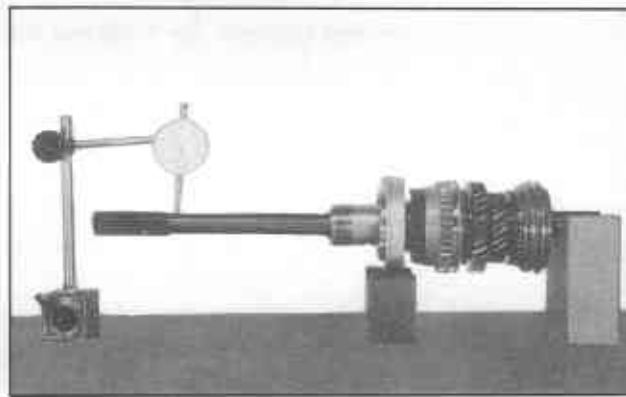

Fig. TM-24 Checking main shaft for straightness
3. Inspect the main shaft for straightness as shown in Figure TM-24.